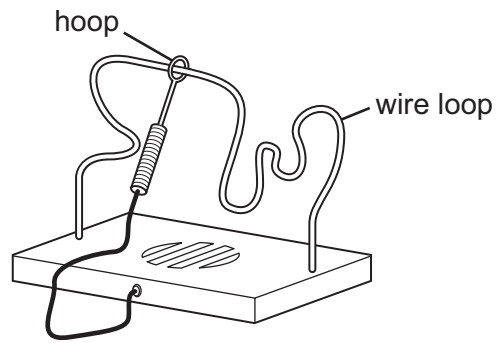

Fig. 1
- 1 Fig. 1 shows a student's design for an electronic game.